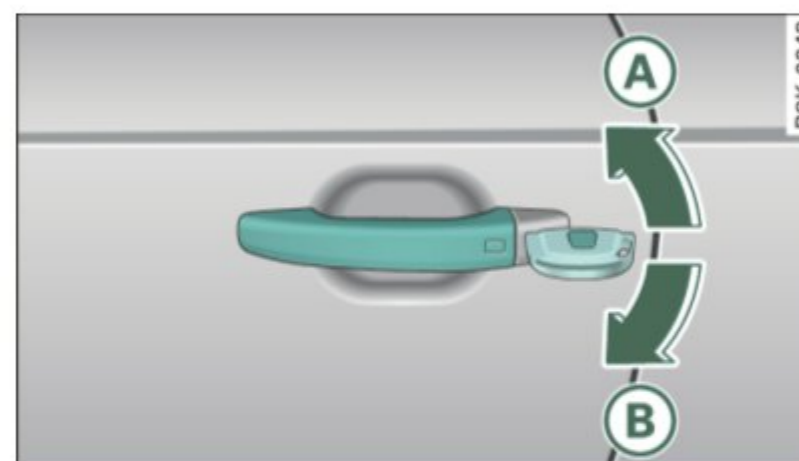

Fig. 36 Key turns for opening and closing
- Turn the mechanical key to position **A** ⇒ fig. 36.